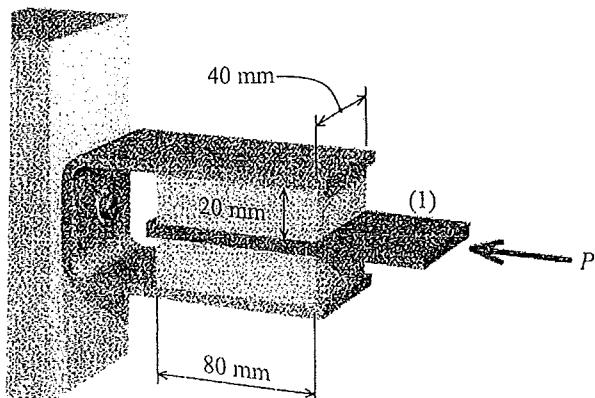

Figure 2
2. [a] Two blocks of rubber, each of 80 mm long by 40 mm wide by 20 mm thick, are bonded to a rigid support mount and to a movable plate (1) (Figure 2). When a force of $P=2,800 \text{ N}$ is applied to the assembly, plate (1) deflects 8 mm horizontally. Determine the shear modulus, G of the rubber used for the blocks.